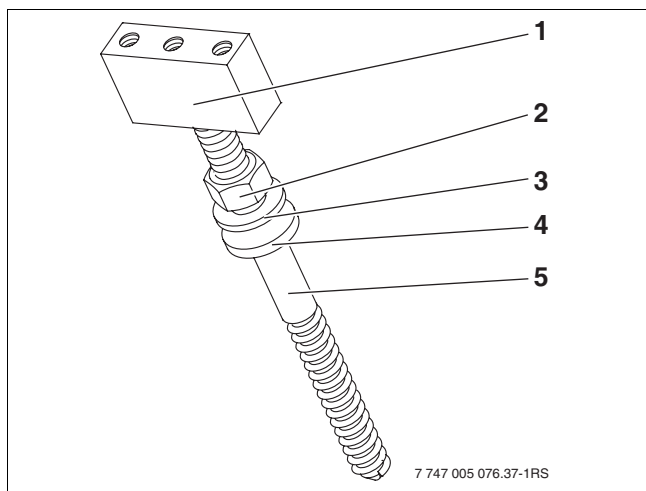
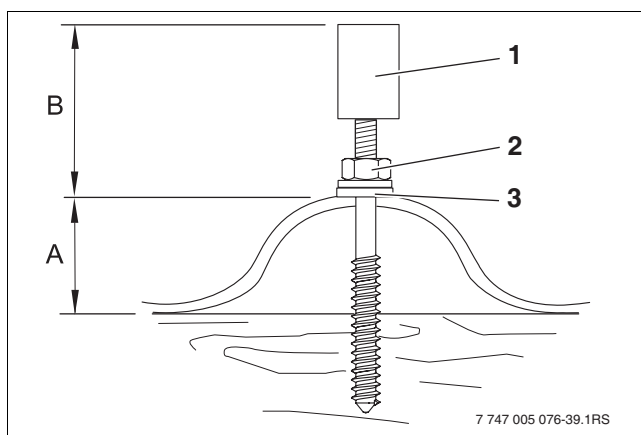

Fig. 26 Fitting the double ended screws - sequence
Fig. 27 Installed double ended screw
- When fitting the double ended screws, note the sequence of the individual parts (→ Fig. 26).
- Turn support block (Fig. 26, [1]) as far as it will go onto the double ended screw (Fig. 26, [5]).
When turning in the double ended screws, ensure that the distances (→ Tab. 14, Fig. 27) are the same for all double ended screws.
- Tighten the nuts (Fig. 26, [2]) until the sealing disc (Fig. 27, [3]) fully touches the roof.